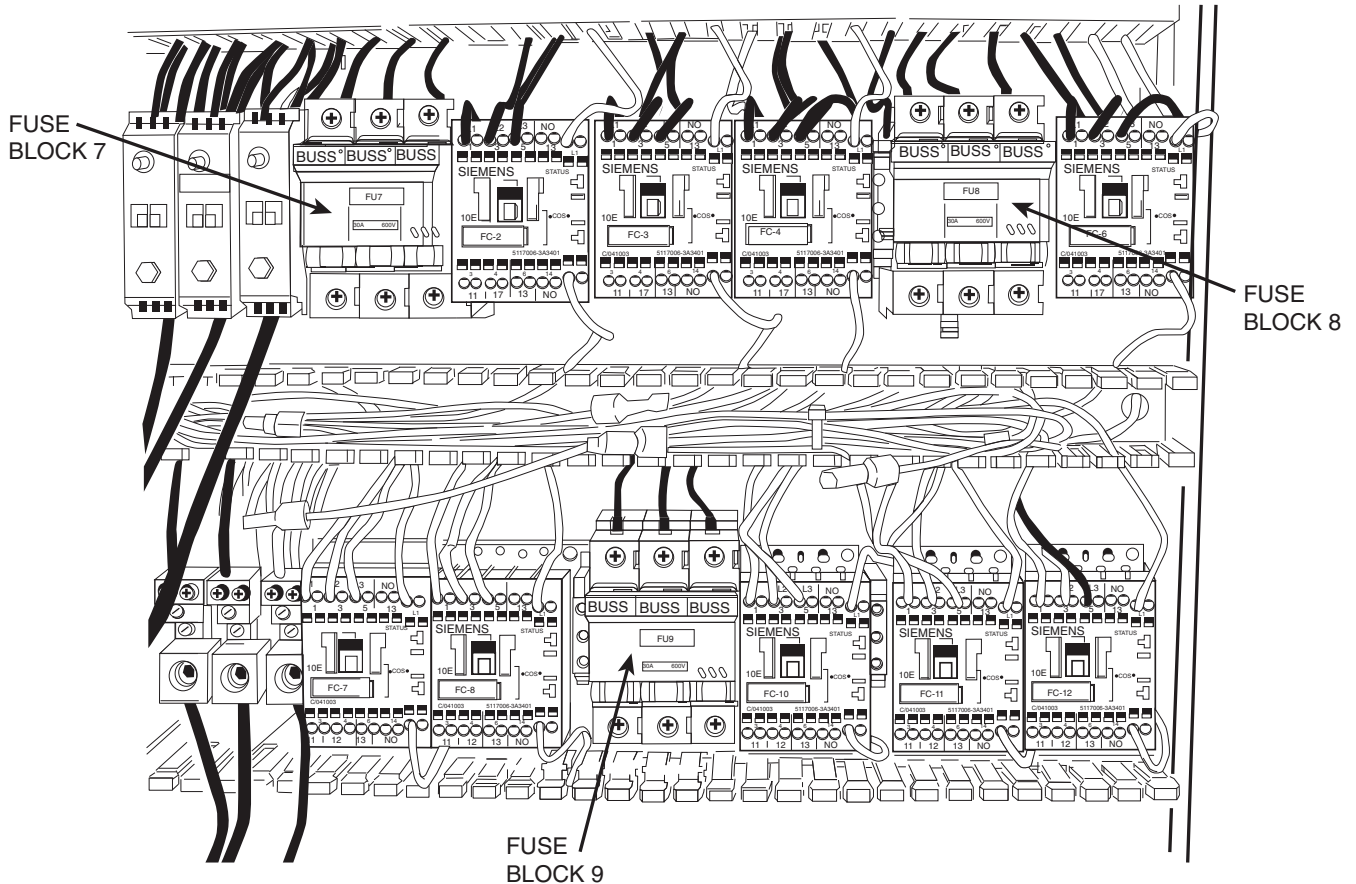
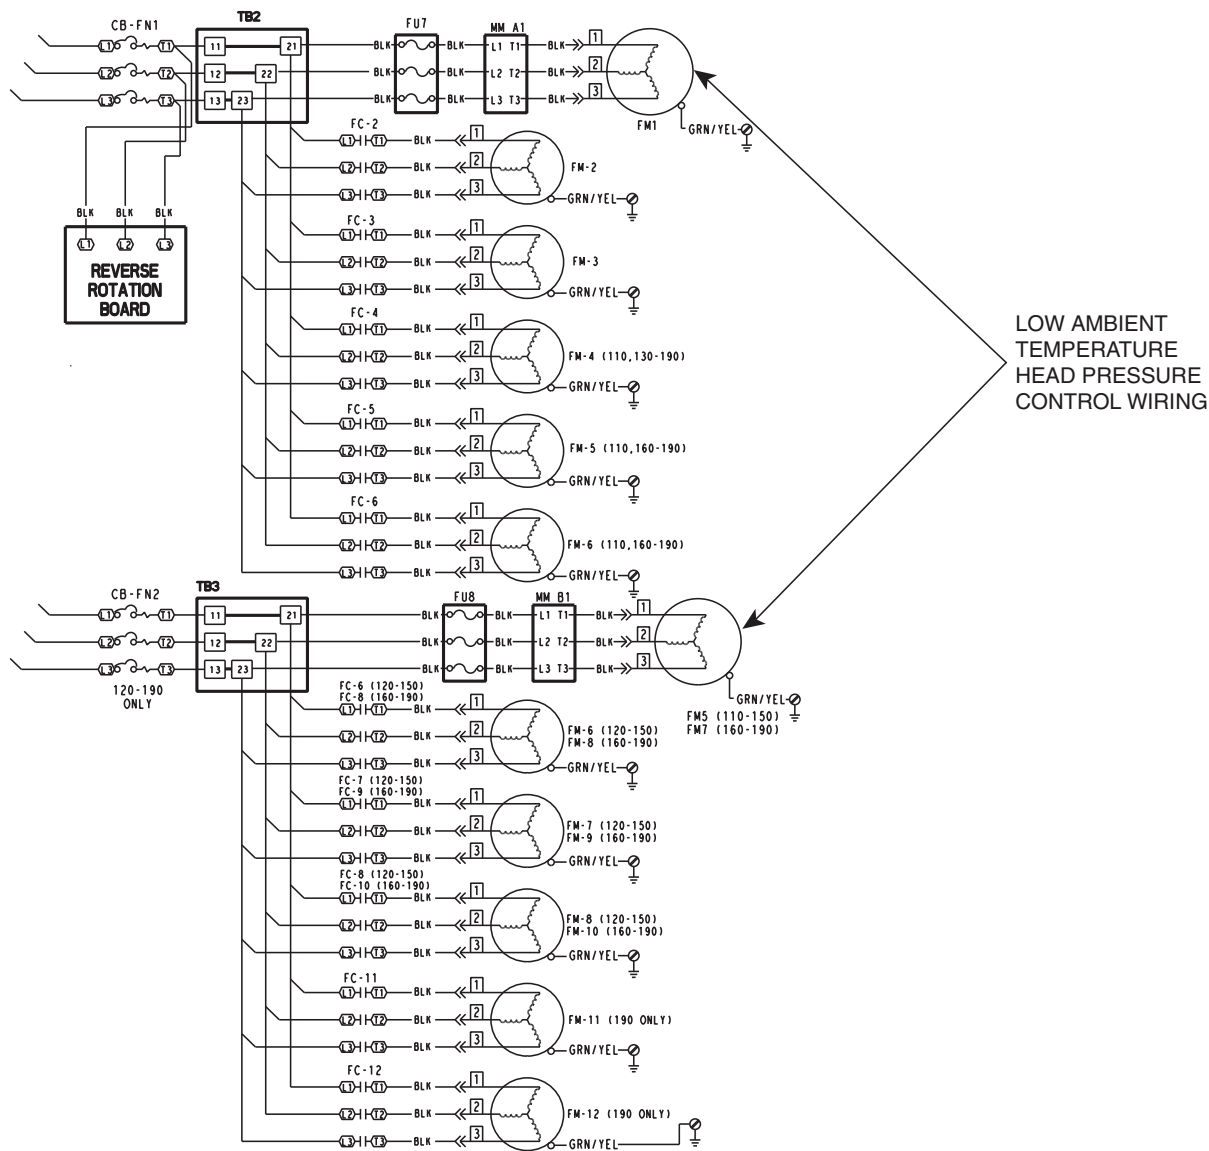

Fig. 5 — Fuse Blocks Installed in Control Panel (30RB210 Unit Shown)
Fig. 6 — Typical Wiring, 30RB060-390 and 30XA080-501 After Low Ambient Temperature Head Pressure Control Installed (30RB110-190 Shown)
7. Repeat steps 1 through 6 for the appropriate motor on each circuit. See Fig. 5 for an example of a 30RB210 chiller with the three fuse blocks installed. See Fig. 6 for a view of typical wiring schematics.